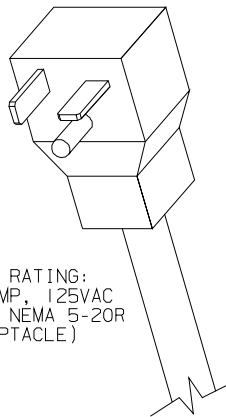

Figure 2-3 Plug
4. All 115 volt 20 amp freezers are supplied with a factory power cord (Figure 2-3) that requires a NEMA "5-20 R" type receptacle to accommodate the plug. All freezers should be connected to a circuit separate from any other electrical equipment.